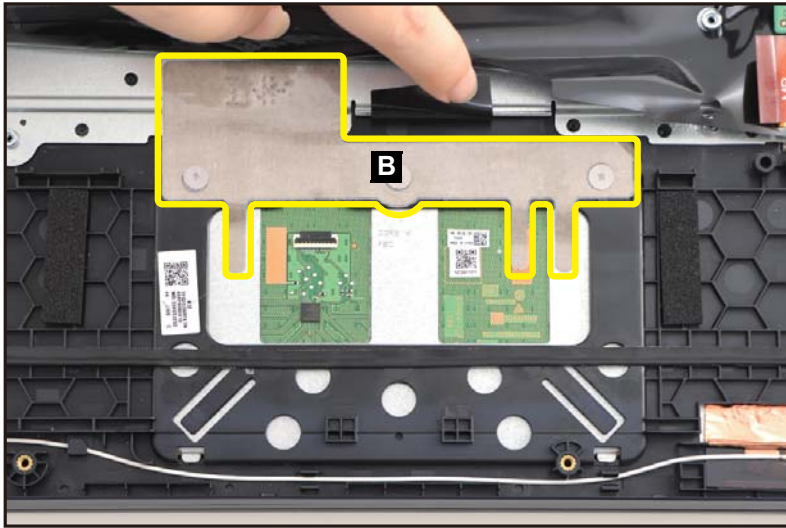

Figure 1-33. Touchpad Module Removal
2. Slightly detach and lift the mylar. Then detach the conductive tape (B) from the touchpad module and top assembly (Figure 1-33).